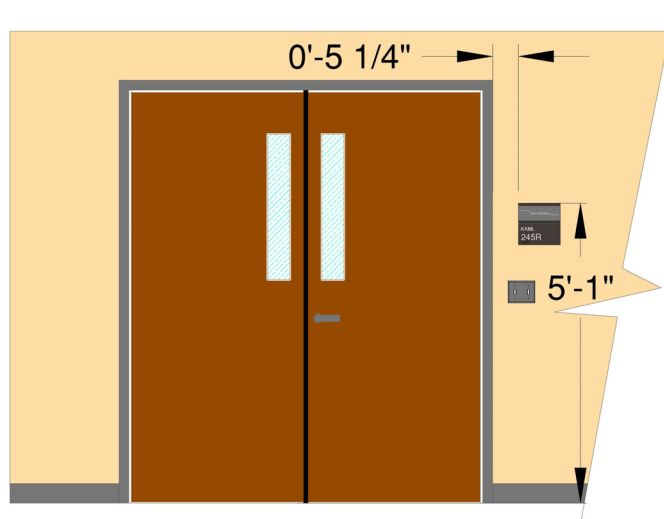

Figure 30.7
30.7. Identification signs installation, for double doors with glass, shall comply with figure 30.7.